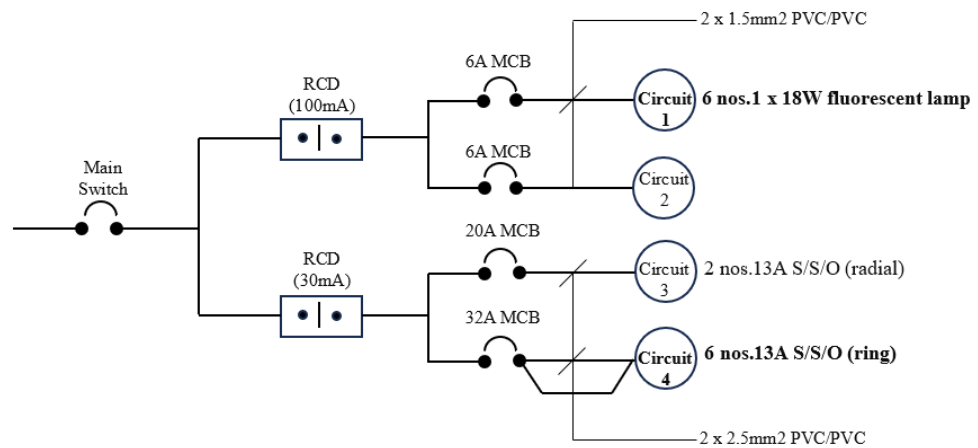

Figure B2(c) / Rajah B2(c)
- CLO1 (c) Figure B2(c) shows the single phase electrical wiring schematic diagram connected to the final circuits. As an electrical contractor, explain:
i. any **TWO (2)** of the electrical accessories used in the wiring system.